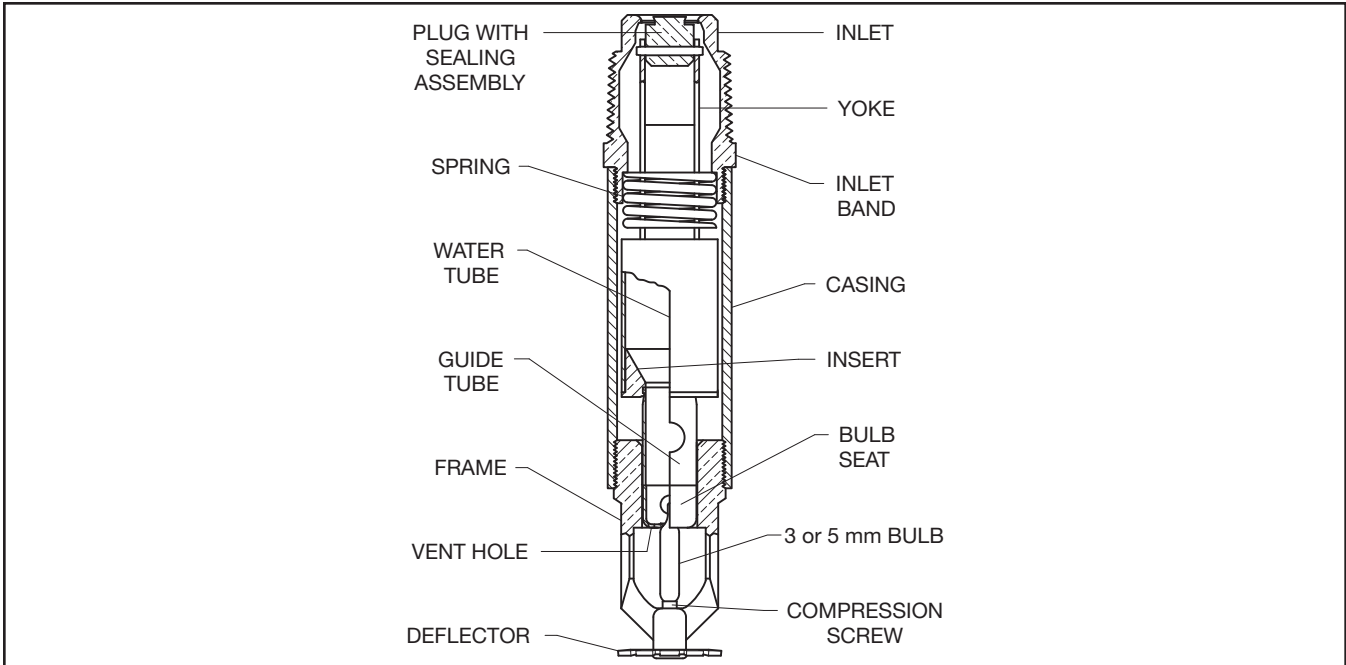

FIGURE 1
The Sealing Assembly consists of a Disc Spring that is sealed on both its inside and outside faces with a TEFLON gasket. The Disc Spring is 1/2 Hard Beryllium Nickel. Refer to Figures 1 through 3 for component assemblies.
When TYCO Series DS-1 Stainless Steel Dry-Type Sprinklers, 5.6K Pendent, Horizontal Sidewall (HSW), and Extended Coverage HSW, Standard (5 mm bulb) and Quick (3 mm bulb) Response are in service, water is prevented from entering the assembly by the Plug with Sealing Assembly in the Inlet of the sprinkler. Refer to Figures 1 through 3.
Step 3. Wrench-tighten the sprinkler using a pipe wrench on the Inlet Band or Casing (refer to Figures 1 to 3) or using the W-Type 7 Sprinkler Wrench on the Wrench Flat (refer to Figure 9).
A Vent Hole is provided in the Bulb Seat to indicate if the Dry Sprinkler is remaining dry. (Refer to Figures 1 through 3.) Evidence of leakage from the Vent Hole indicates potential leakage past the Inlet seal and the need to remove the sprinkler to determine the cause of leakage; for example, an improper installation or an ice plug. Close the